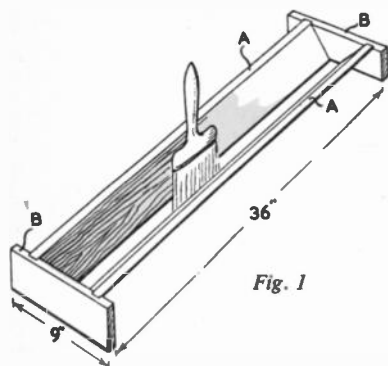

Fig. 1
It consists of a simple trough as shown in Fig. 1 with the sides (A) inclined at an angle. The space at the bottom is about 1 in. wide and the whitewash is applied through this by means of a whitewash or distemper brush. It will be seen that the length of the trough can be increased as desired up to about 10 ft. Bear in mind, however, that a long piece of timber will be likely to warp and throw the trough out of true.